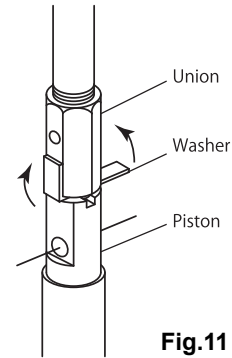

Fig.11
- 11) Insert the ball into the piston. Insert the spring into the union. Put the washer between the piston and the union, and then connect each other. At this time keep both edges of the washer at a right-angled position against the side of the hexagon part of the union. Then screw the union with a spanner and tighten to the piston firmly. Bend both edges of the washer to the direction to the union. This prevents the unit from loosening. (Fig.11)